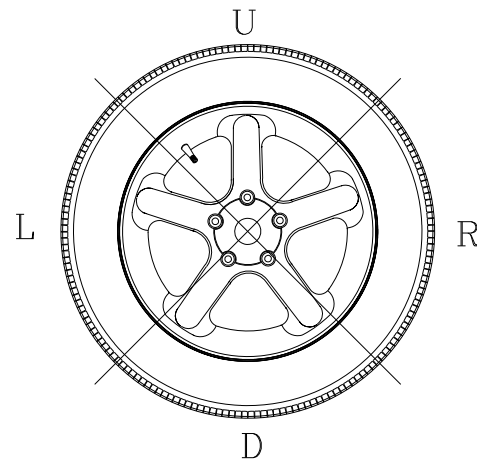

Figure 25
C. The wheel weight could have been placed at a wrong position. To check this, position the wheel at the correction position for the outer plane. If the wheel weight previously attached is in sector 'L' or 'R' (Figure 25), move the wheel weight up about 1" (2.54cm).